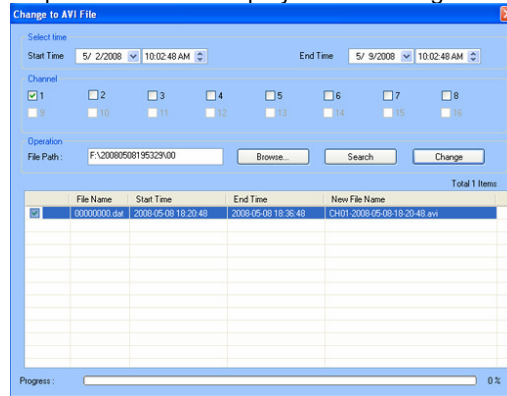

Fig 3.24 AVI Converter
STEP6 Click Browse to choose the folder that contains the video backup first. Set the start/end time, select the channels, and then Click search button. It will show backup files in the file display area as in Fig 3.24 AVI Converter: